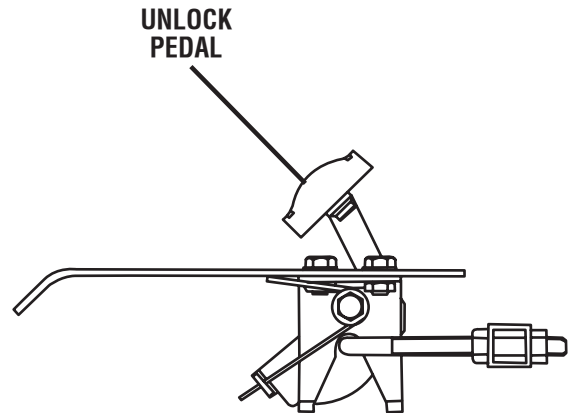

Fig. 16
- Press down on the unlock pedal to check alignment of the U-bolt. The U-bolt should be centered within the latch mechanism as shown in figure 16. Release the unlock pedal and adjust the U-bolt as necessary. Retighten all hardware.